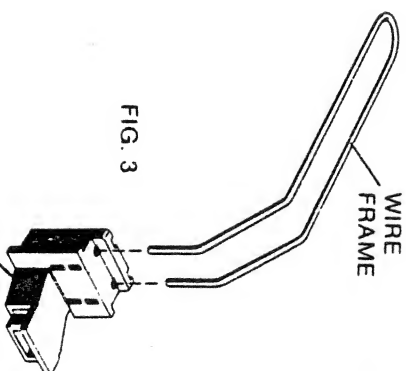

FIG. 3
1. Insert the wire frame into the two holes in the plastic adapter (Fig 3)